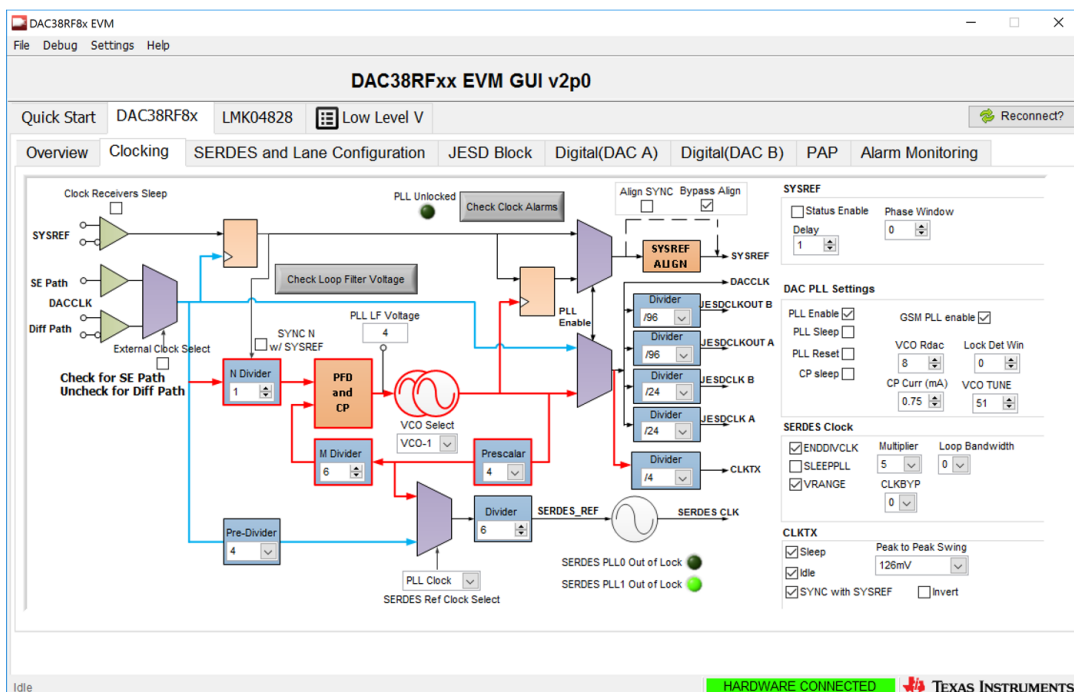

Figure 3. DAC38RFxx EVM GUI Clocking tab
8. The configuration should now be complete. To verify the clocking setup is correct navigate to the DAC38RF8x tab and then click the *Clocking* sub-tab. The value in the *PLL LF Voltage* box should read a value between 2 and 6. See Figure 3.